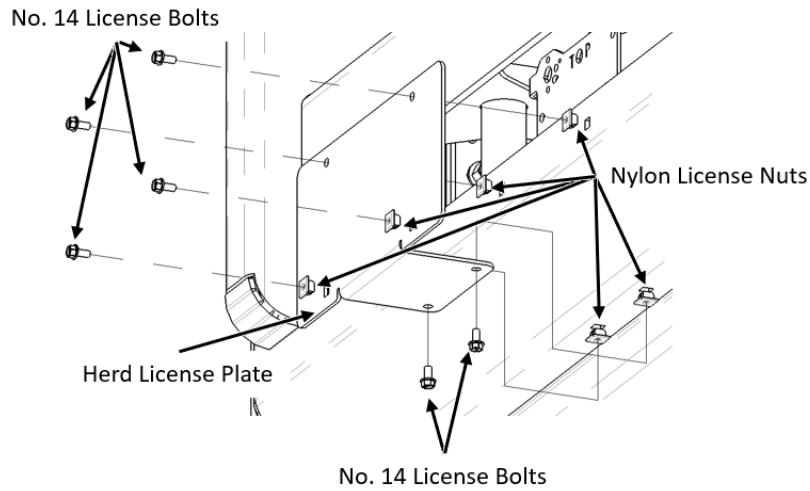

Figure 5: Herd License Plate Installation
1. Insert the nylon license nuts into the square cut-outs in the bumper and license plate bracket. Bolt the bracket into place using the provided No. 14 license bolts. The front four bolts can be used to mount a license plate as needed. See Figure 5.